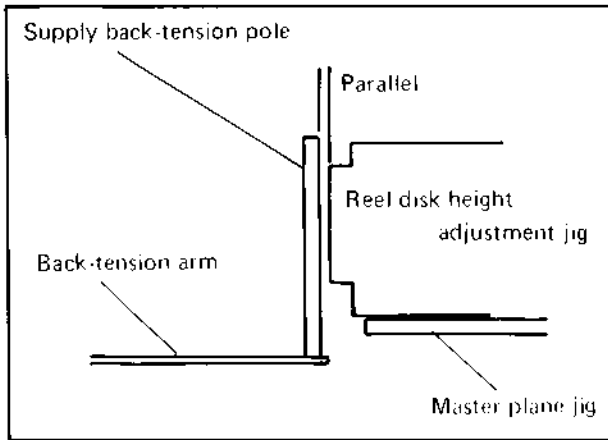

Fig. 5-31
6. Place the reel disk height adjustment jig on the master plane jig and adjust the tilt of the tension pole as shown in Fig. 5-31.